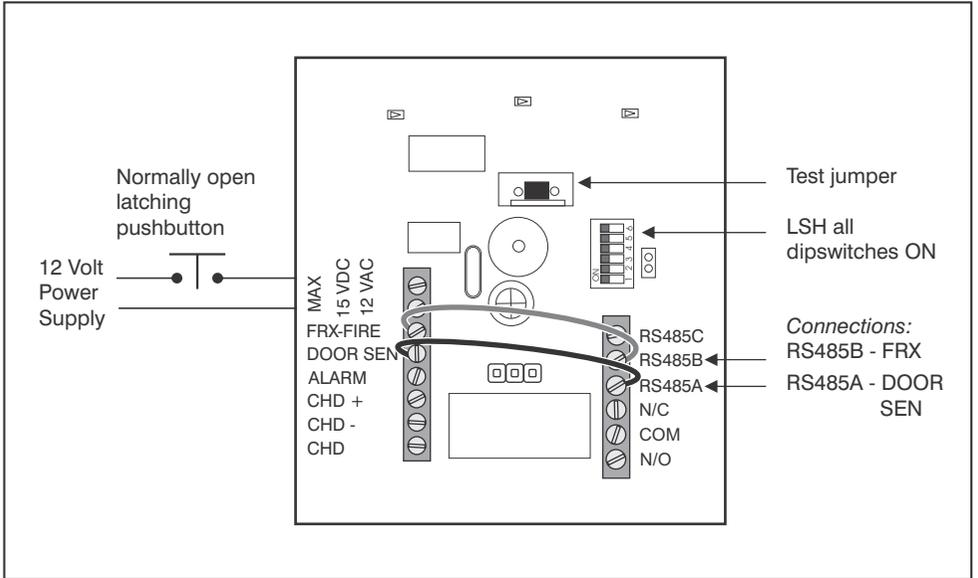

Figure 10 Lattice SLAVE head Connection Diagram
1. Connect the unit under test as per figure 10.
4. Remove and replace the test jumper, refer to figure 10.
7. Remove the test jumper, refer to figure 10.